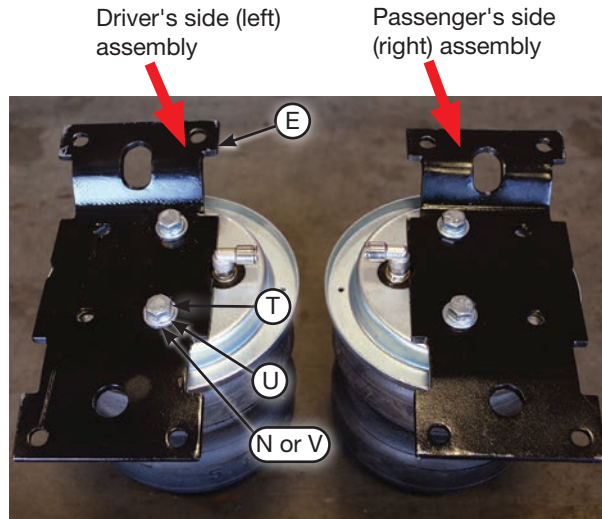

fig. D.8
- Set the upper air spring bracket (E) onto the top of the air spring using one set of holes with the 3/8"-24 x 7/8" hex-cap screw (T), 3/8" lock washer (U) and 3/8" flat washer (N or V) (Fig D.8). Install the remaining air spring bracket onto the remaining air spring, using the opposite holes from those that were previously used. This makes the air spring assemblies into left- and right-hand units. Torque the hardware to no more than 20 lb.-ft. (27Nm).